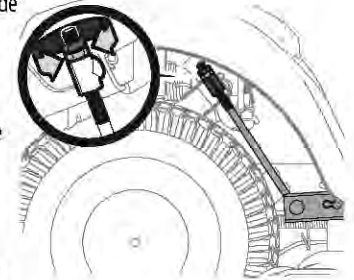

Figure 38
3. Under the rear fenders inside the wheels there is a lift adjustment rod for each side of the deck. See Figure 38.